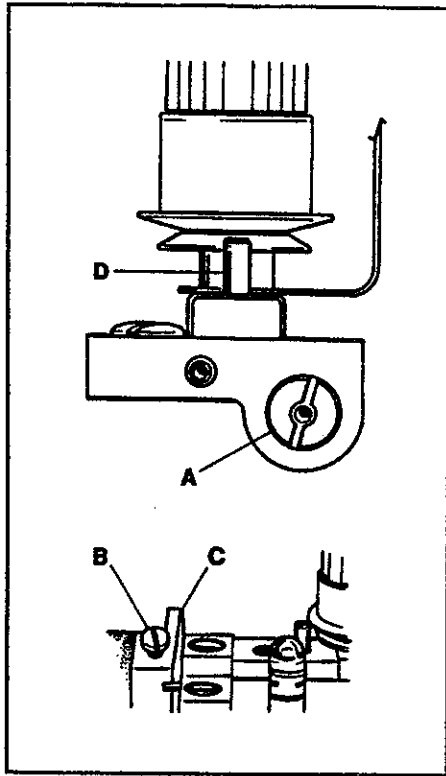

FIG. 35
The tension release should start to function when the presser foot has raised approximately $1/32"$ (0.8mm) above the surface of the throat plate and be entirely released when the presser foot has reached its highest position. Insert a large screwdriver into slot on the right end of shaft (A, Fig. 35), loosen screw (B) in lifter lever (C) and turn the screwdriver to raise or lower pins (D). Tighten screw (B).